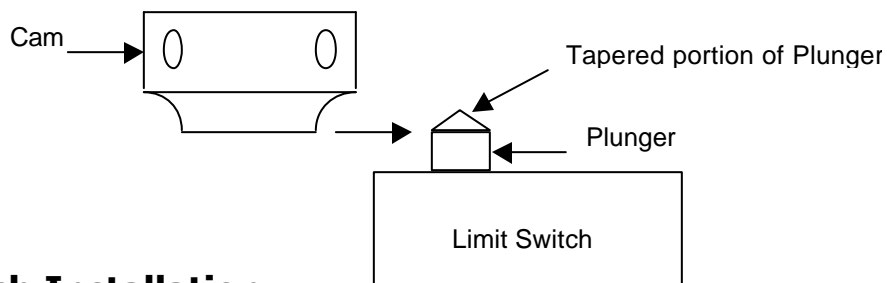

Figure 46
8. Set the height of the cam such that the cam initially makes contact near the bottom, but not past, the tapered portion of the plunger as shown below in Figure 46.